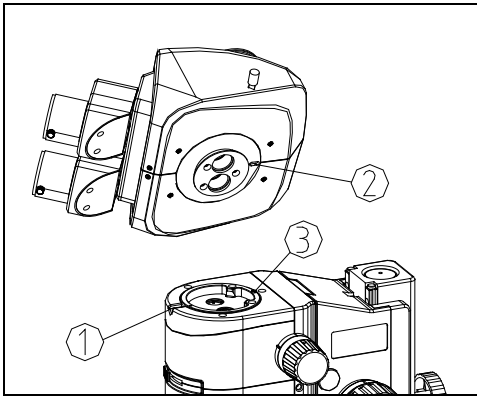

Fig.6
1. Loosen the head lock-screw (1) completely with a M4 inner hex spanner.
2. Align the dovetails starting from rear and insert the dovetail on the microscope head into the zoom body. Align the orientation groove (2) of the head with the orientation pin (3) of the body and then tighten the lock screw (1). (See Fig. 6)